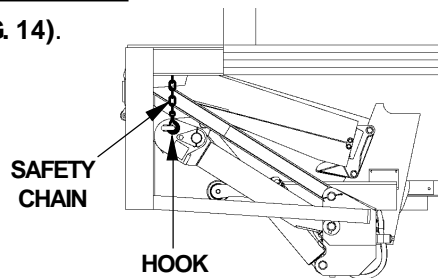

FIG. 14
9. Hook Safety Chain to Liftgate (**FIG. 14**). Liftgate is ready for transport.